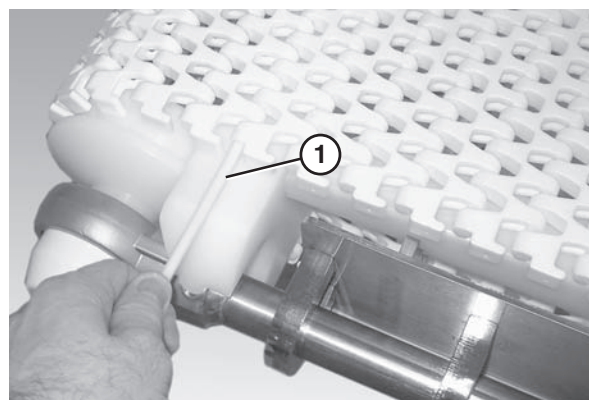

Figure 20
4. Insert the belt rod (Figure 20, item 1).